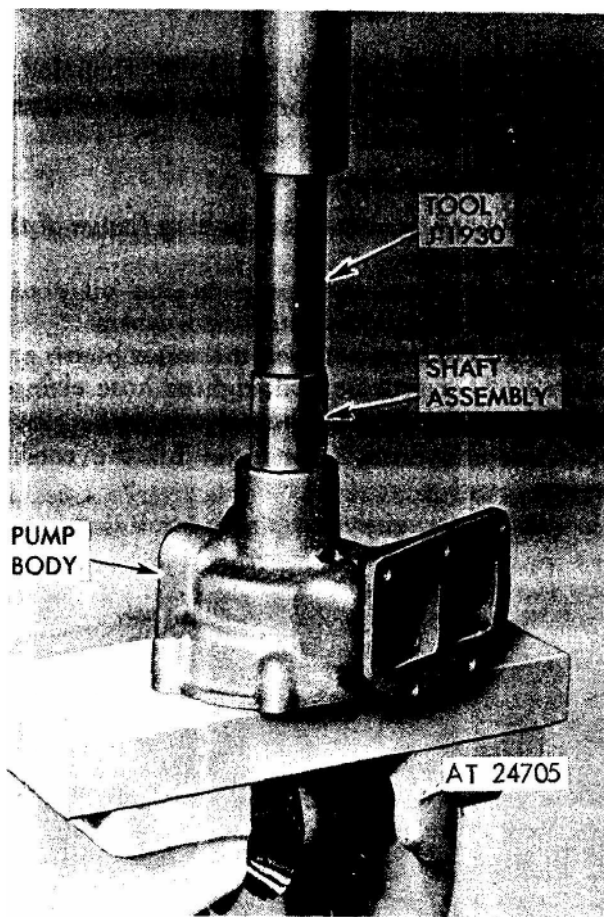

Figure 5. Pressing shaft assembly into water pump.
3. Press the shaft and bearing assembly, seal, and impeller out of the pump body as an assembly, by applying pressure on bearing outer race with tool J 1930 (fig. 5).
1. Using tool J 1930, apply pressure to the outer race of the bearing as shown in figure 5. Press the shaft and bearing assembly into the pump body until the outer race of the bearing is flush with the outer face of the body.